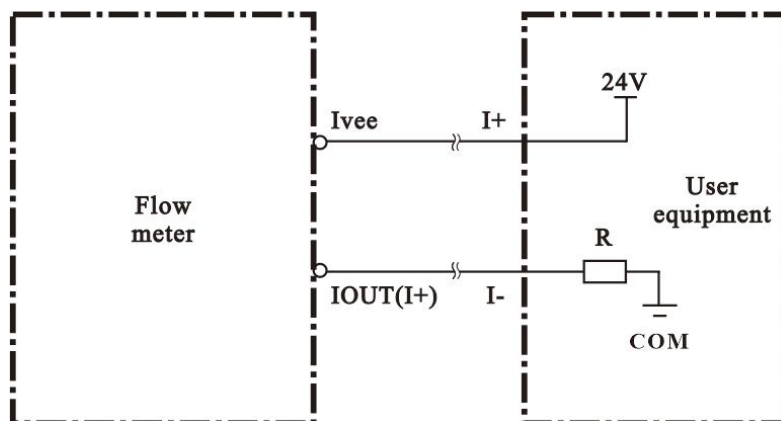

Figure 12
7.5.2 Output mode 2: Two-line system of passive current output (Figure 12)